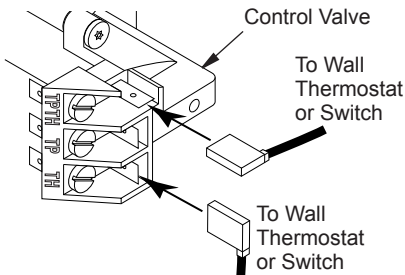

Figure 24 - Connecting Wire Terminals
2. Connect one terminal of 25 ft. wire to the "TH" terminal on the control valve. Connect the other terminal to the "THTP" terminal on the control valve. See Figure 24, page 17.
2. Connect one terminal of 25 ft. wire to the "TH" terminal on the control valve. Connect other terminal to the "THTP" terminal on control valve. See Figure 24.